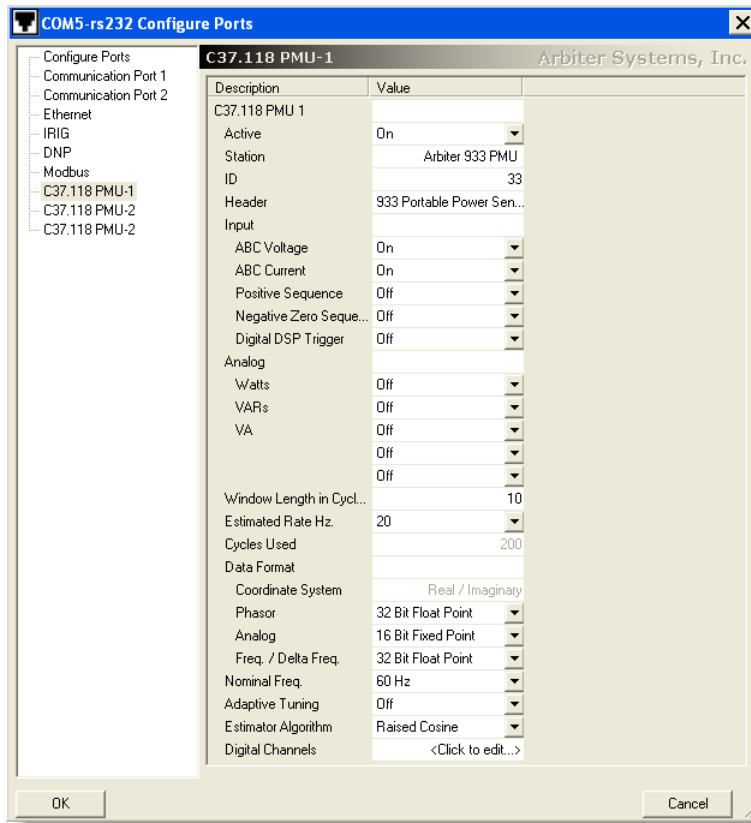

Figure 6.5: Configure Phasors, PMU-1
When dealing with phasor data, PSCSV is both a configuration and data acquisition tool. It is designed to configure the 933A to produce *C37.118-type* data. This means that while data is very similar to C37.118, *the 933A does not have an Ethernet port and is not C37.118 compliant*. See Figure 6.5 to better identify the Phasor Terminology listed below.
Rate (R) times the number of cycles (or Window Length, W). Cycles Used = $R \times W$. For example in the screen shot from Figure 6.5, this value is $20 \times 10 = 200$. Maximum values for Cycles Used are 1440 for 60 Hz and 1200 for 50 Hz.